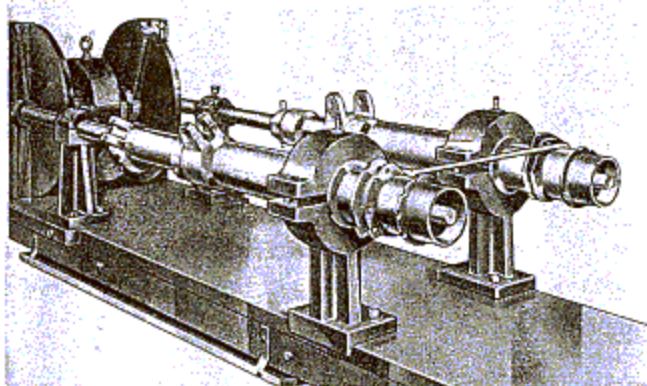

Figure 126—Running-in the Oleo Strut
a. Push the piston into the cylinder as far as possible and stand the strut in a vertical position. Fill the strut with hydraulic fluid, AAF Specification 3586, until it overflows, and replace the Schrader plug loosely. Place the oleo strut in the machine (figure 126) and cause the strut to be extended and retracted several times to eliminate air trapped in the strut. Remove the strut from the machine and check the fluid level. If additional fluid is added, repeat the procedure outlined above each time fluid is added, until the proper fluid level is obtained. Inflate the strut to 208 pounds per square inch pressure with a high pressure hand pump. Do not use compressed air. Replace the strut in the machine and run in a minimum of 500 cycles.